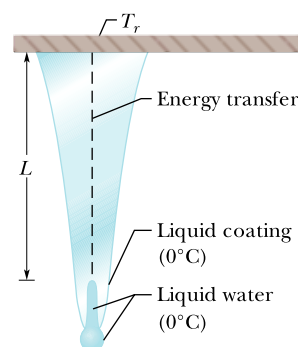

Figure 18.32 Problem 78.
**78 CALC Go FCP** Icicles. Liquid water coats an active (growing) icicle and extends up a short, narrow tube along the central axis (Fig. 18.32). Because the water-ice interface must have a temperature of  $0^\circ\text{C}$ , the water in the tube cannot lose energy